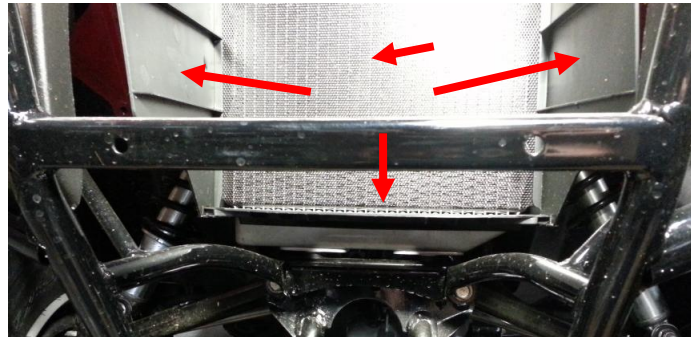

Figure 2
2. On either side of the radiator are plastic side walls, remove both of them via the 1/4" fender clips. Note which side is the RH and LH as they will need to be installed correctly later. Remove the plastic cross support and set aside. Also, it is helpful to remove the mesh radiator guard from the radiator side supports. Set it aside. (Figure 2)